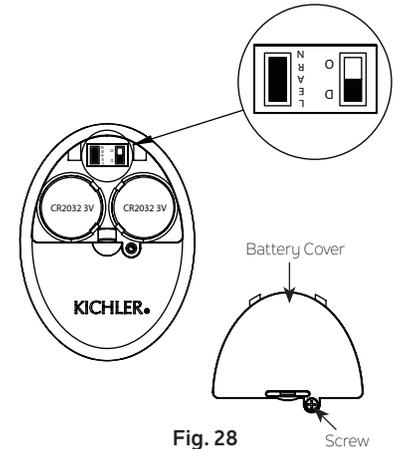

Fig. 28
After installing and wiring the unit, restore power to your fan, press and hold the LEARN key for 1~3 seconds, the fan will turn on at medium speed and light (if installed) will turn on. This confirms that the learning process have been completed. This operation must be completed within 30 seconds after restore power to the fan. (Fig. 28)
NOTE: If the fan has fluorescent lighting, slide to "O" position. If the fan is with incandescent or halogen lighting or LED, slide to "D" position. Factory set is on "D" position. (Fig. 28)
Step 4. Replace the battery cover and tighten with screwdriver. (Fig. 28)